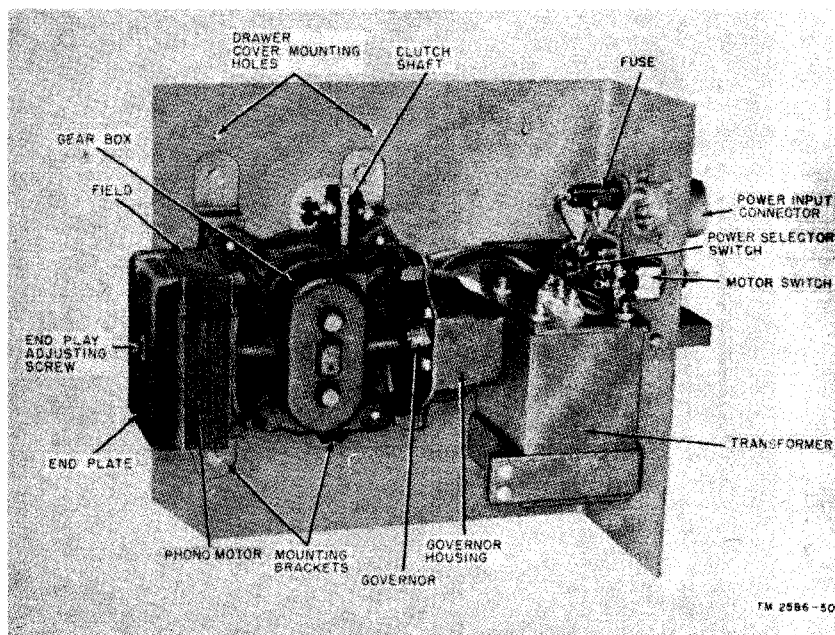

Figure 51. Turntable drawer, bottom view, cover removed.
- (2) Remove the four screws, and self-locking nuts that hold the turntable gear box and motor unit mounting brackets (fig. 51) to the turntable drawer.